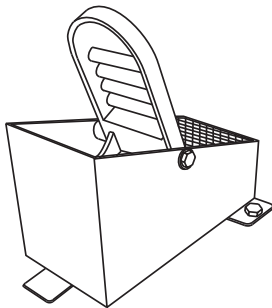

Figure 13. Blade Speed Control Foot Pedal
2. The right foot pedal (Figure 13) controls blade and engine speed. The position of the foot pedal determines the blade speed. Slow blade speed is obtained by slightly depressing the pedal. Maximum blade speed is obtained by fully depressing the pedal.